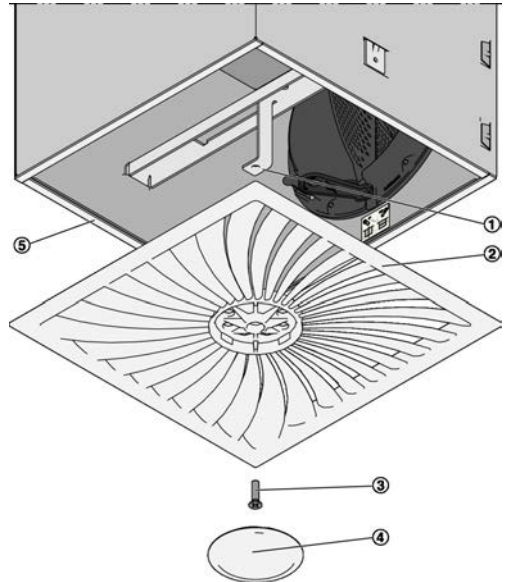

Fig. 9: Installing the diffuser face
1. ▶ Glue the seal (Fig. 9/5) onto the reverse edge of the plenum box.
2. ▶ Fix the diffuser face (Fig. 9/2) with the central fixing screw (Fig. 9/3) to the cross bar (Fig. 9/1) and cover it with the decorative cap (Fig. 9/4).